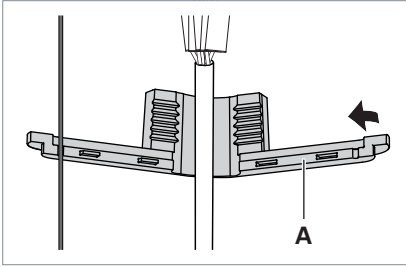

Fig. 17: Attaching the cable duct.
- ▶ Put the cable duct **A** around the connecting cable and the wire rope, see Fig. 17.